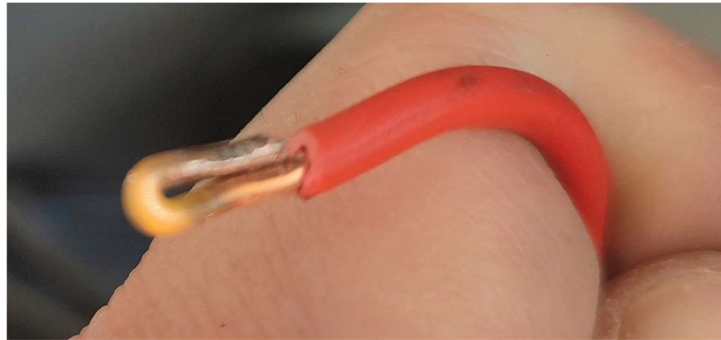

Figure 4.6. STEP 12g: for solid core wire, fold back and squeeze the wire with a set of pliers to give the cage clamp a better grip.
- g. For 1.5mm² solid core wire, removing the insulation for 12mm, folding back, and squeezing with a set of pliers provides a more secure fit in the cage clamp when tightening (see **Figure 4.6**).